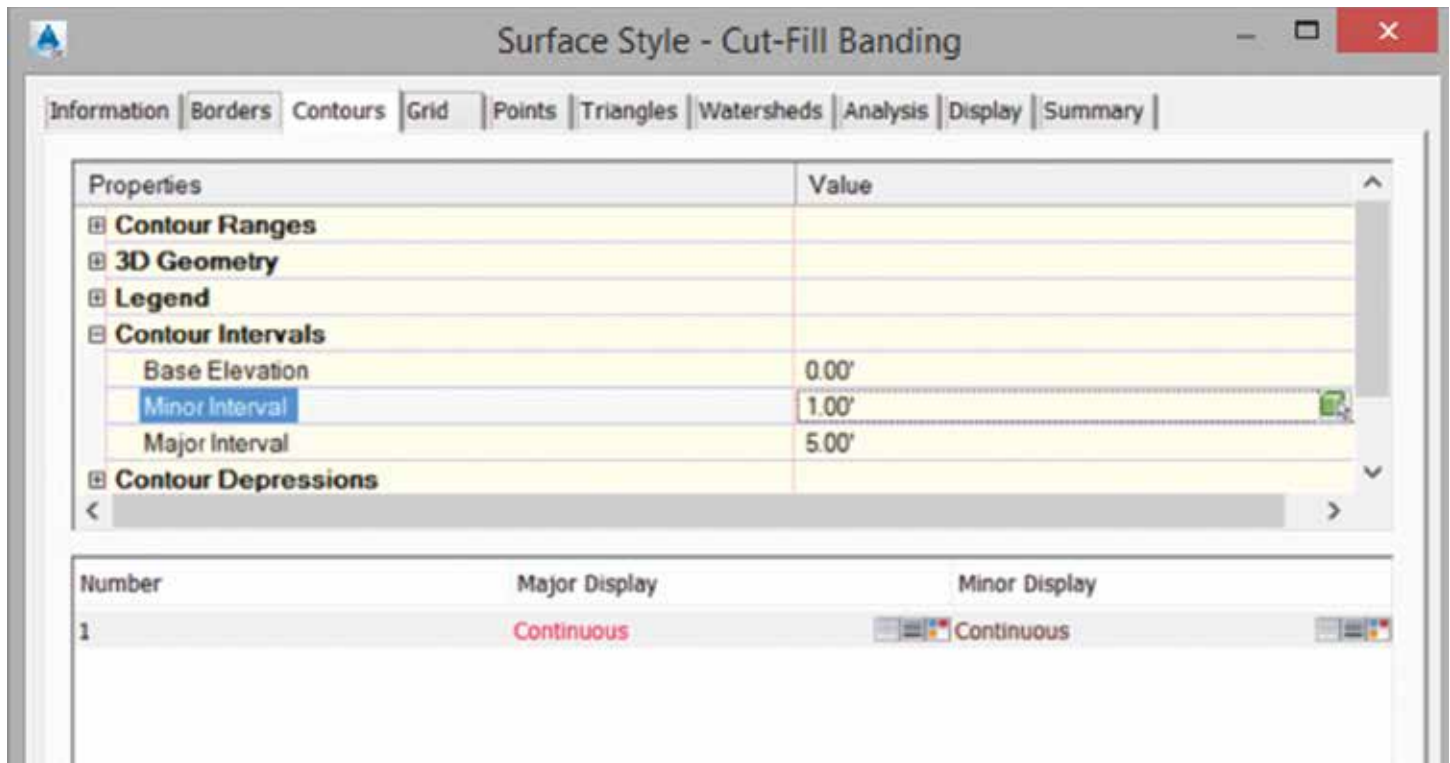

Figure 8: Set contour intervals
3. If you turned on the contours in the Display tab, then also set the Contour Intervals on the Contours tab, as shown in Figure 8.